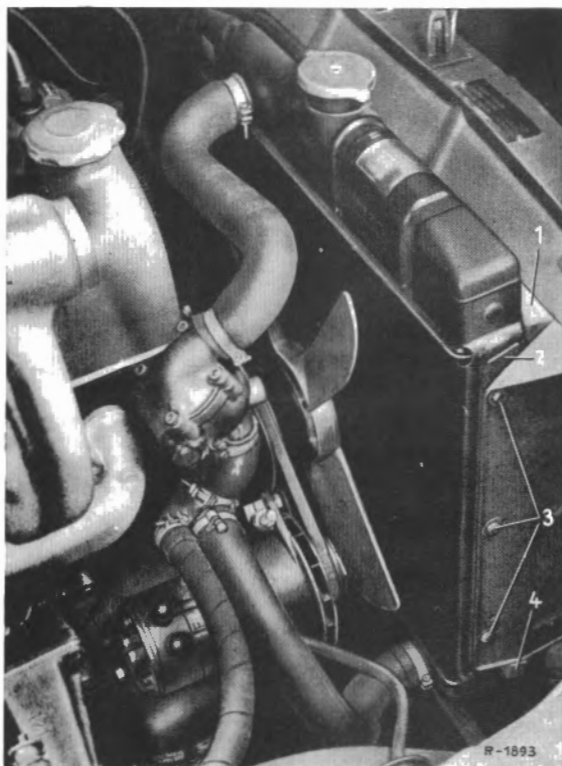

Fig. 50-1/3
4. On cars with automatic DB transmission unscrew any hose connections from the transmission oil cooler (Fig. 50-1/6). Plug the pipe unions on the radiator and hose lines against dust.